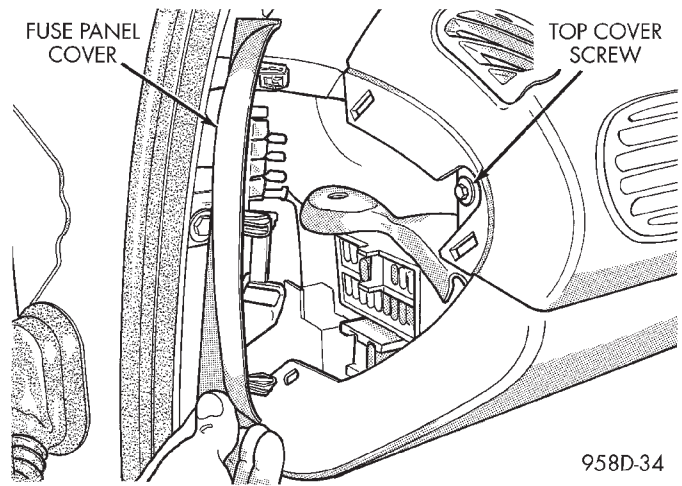

Fig. 4 Instrument Panel Top Cover Attaching Screw
(3) Before beginning removal of steering column assembly from vehicle, be sure front wheels of vehicle are in the **straight ahead** position.
(4) Remove fuse panel cover from left end of instrument panel (Fig. 4). Then remove the screw behind fuse panel cover, attaching the instrument panel top cover (Fig. 4).